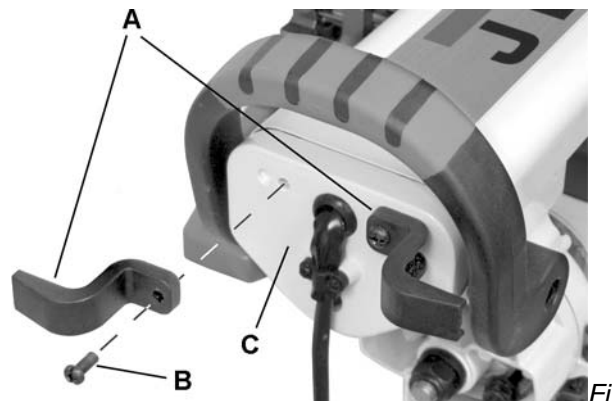

Figure 5
Attach each *storage clip* (A, Fig. 5) to the rear of slide-bar seat (C) with one *mounting screw* (B).